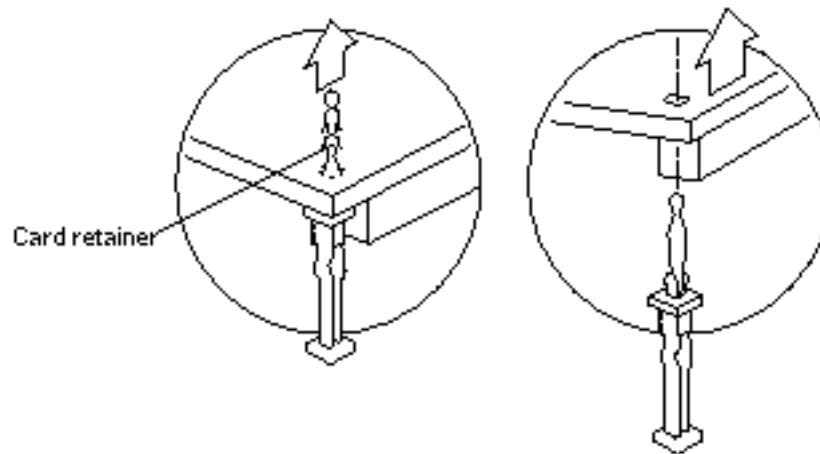

Figure 2-20 Removing an SBus Card from Slot 2
- If the SBus card is located in SBus slot 2, pull the card retainer up. See Figure 2-20. There is only one card retainer for the SBus slot 2.